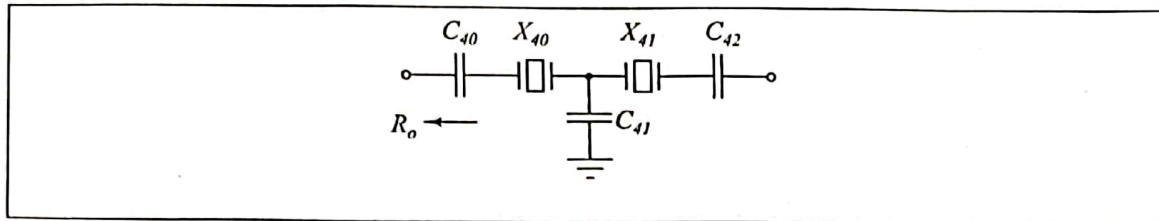

Figure 5: IF Filter schematic.
1. The IF filter of TRC-11 is given in Fig. 5. Start building the filter by placing the crystal X40 and its corresponding series capacitor C40 in their places. Solder them.